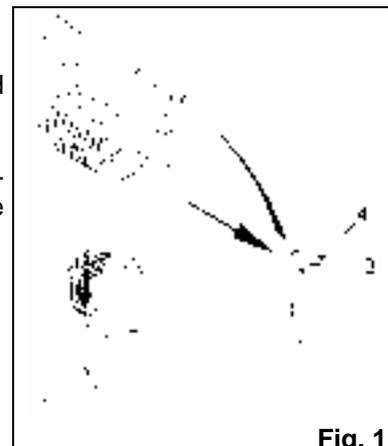

Fig. 1
on the boom head (Fig. 1)
The steel wire rope clamp of the winch rope is attached in the rope socket as shown in the illustration. If the locking pin is inserted (3) in the direction of the arrow (refer to item 6.7.1, Fig. 1 and 2) and fastened to the boom head or the bottom block, it is ensured that the steel wire rope clamp cannot be detached from the rope socket. Once the pin has been inserted in the direction of the arrow (refer to item 6.7.1, Fig. 1 and 2), it is essential to secure it by means of the spring clip (4).